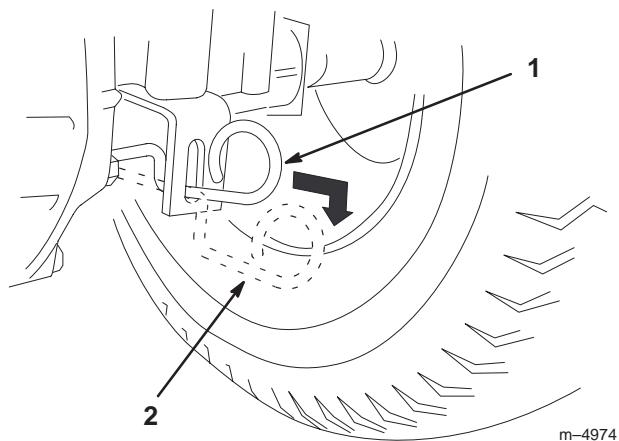

Figure 13
2. Pull the drive control out to the Push position. This disengages the drive system and allows the wheels to turn freely (Fig. 13).
Push the drive control in to the Operate position. This engages the drive system (Fig. 13).